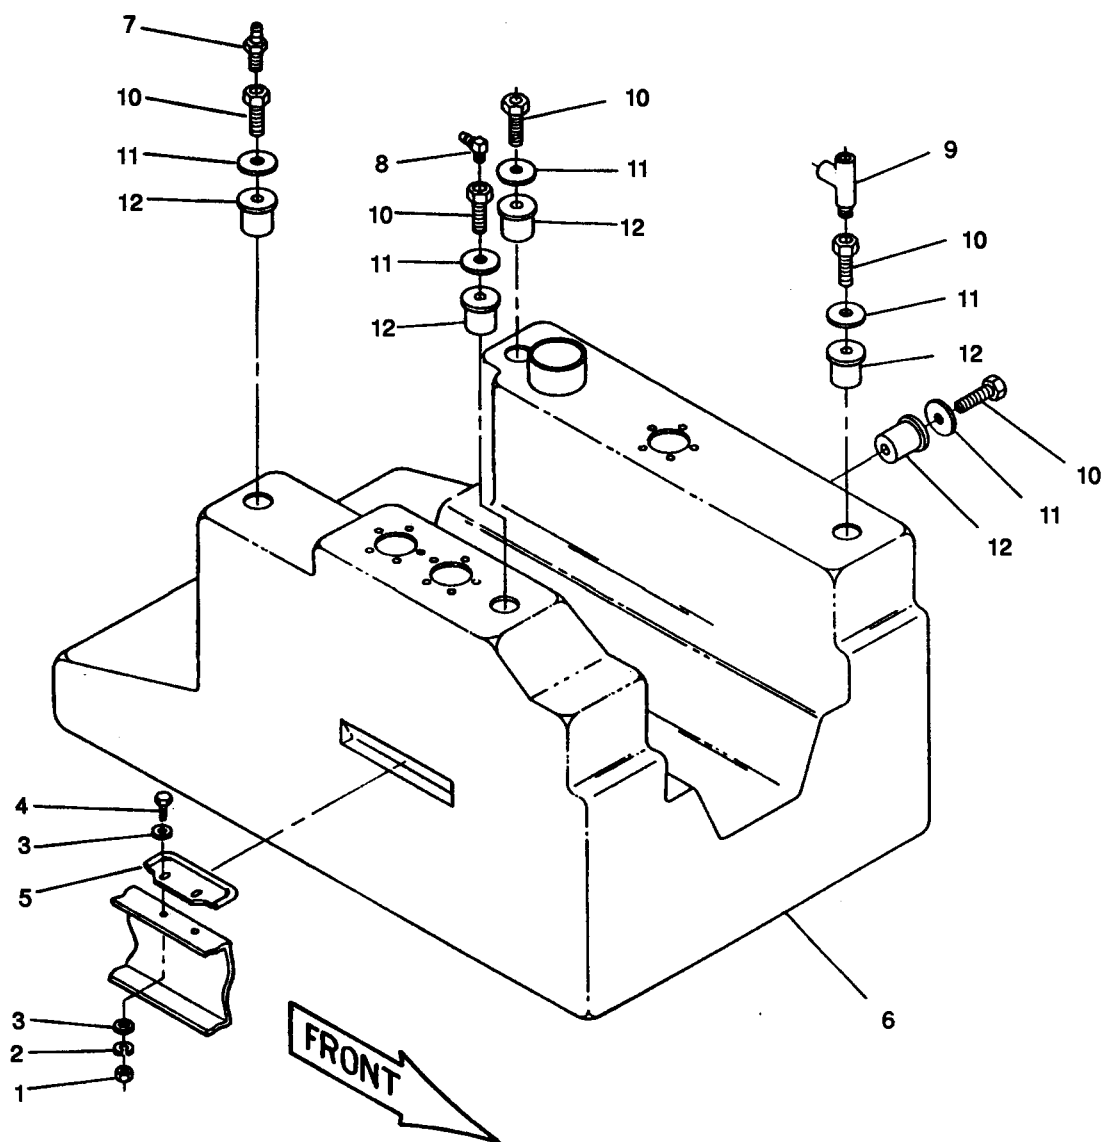

Figure 4-4. Fuel Tank
- Inspect fuel tank (6, FIGURE 4-4) for leaks, cracks, missing hardware, and other damage.
- Remove nuts (1, FIGURE 4-4), lockwashers (2), washers (3), bolts (4) and plates (5) securing fuel tank to skid base.
- Remove fuel tank (6) from skid base.
- Remove fittings (7) and (8) from excess fuel studs (10) on right side of tank.
- Remove fitting (9) from excess fuel stud (10) on left side of tank.
- Remove studs (10), washers (11), and bushings (12) from fuel tank.
- Install bushings (12, FIGURE 4-4), washers (11), and studs (10) in fuel tank (6).
- Install fitting (9) in excess fuel stud (10) on left side of fuel tank.
- Install fittings (7) and (8) in excess fuel studs (10) on right side of fuel tank.
- Install fuel tank (6) in skid and secure with plates (5), bolts (4), washers (3), lockwashers (2), and nuts (1).